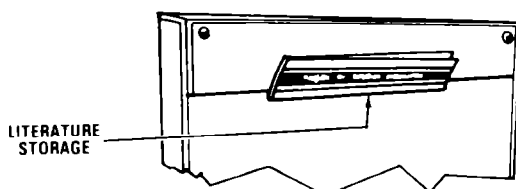

FIGURE 7
5. Remove any materials that are shipped in the drawer. Some models have a literature storage compartment located inside the front panel. *See Figure 7.* **DO NOT REMOVE THE BAG.**